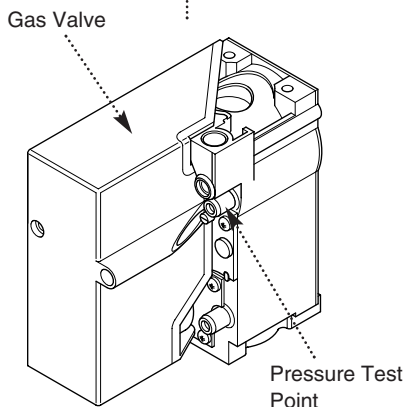

Fig. 81
6. Loosen the pressure test point screw on the gas control valve (there is no need to completely remove this screw to check the burner pressure) and connect a pressure gauge (Fig. 81).